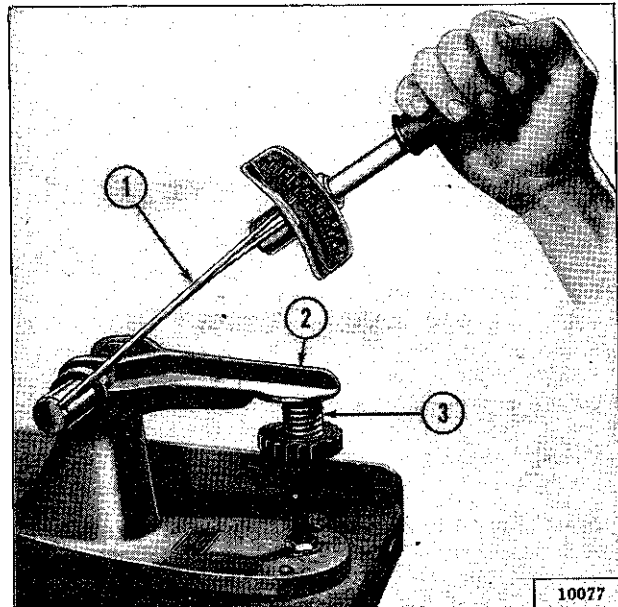

FIG. 55—TESTING VALVE SPRING
Wash the valve springs thoroughly in solvent. Visually examine the springs and replace any that are deformed or obviously damaged. Examine for corrosion from moisture or acid etching which might develop into surface cracks and cause failure. Measure the over all free length of the springs and replace any that do not measure to standard:  $1\frac{31}{32}$ " [35,7 mm.] for both intake and exhaust valve springs. If possible, check each valve spring in a valve spring testing fixture as shown in Fig. 55. Test each spring when compressed to the two different spring length given (representing valve closed and valve open spring length). If any spring fails to register spring tension equal to or greater than the minimum load limit in pounds specified for that spring length, replace the spring.
**NOTE:** When using a spring checking fixture as shown in Fig. 55, it is necessary to convert the torque wrench reading which is in pounds-feet to the static pound pressure specified above according to the instructions furnished with the wrench. For example, should the torque wrench reading be 50 lb-ft. and the wrench is two feet long the static pressure of the spring will be 50 x 2 or 100 lbs.